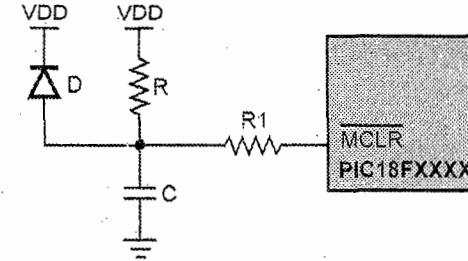

Fig. Q.12.1 : Power on reset
- A Power-on Reset pulse is generated on-chip when VDD rise is detected above threshold. The power on circuit is shown in Fig. Q.12.1.